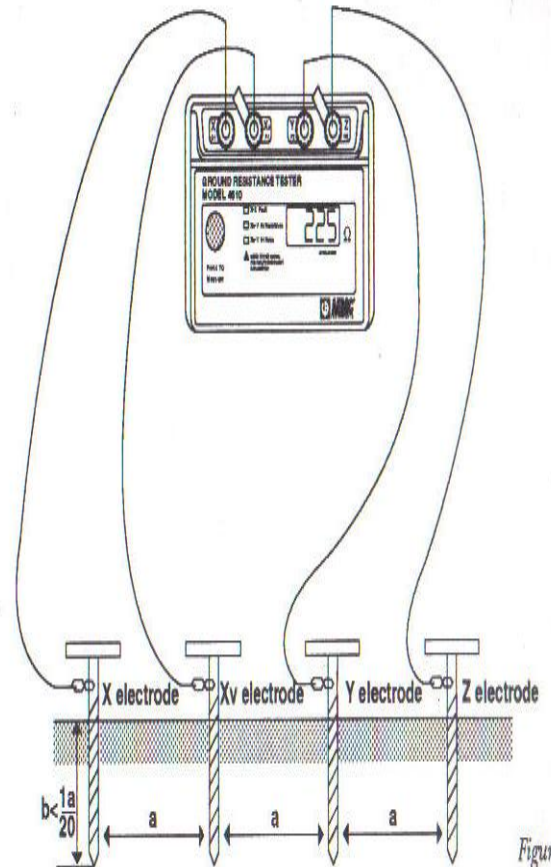

Figure 28
- Arrange the electrodes in a straight line. Be sure that distances between electrodes are identical: e.g., 3 meters between each electrode. (Consult Figure 28.)
- Read the resistance level (R) indicated on the display.